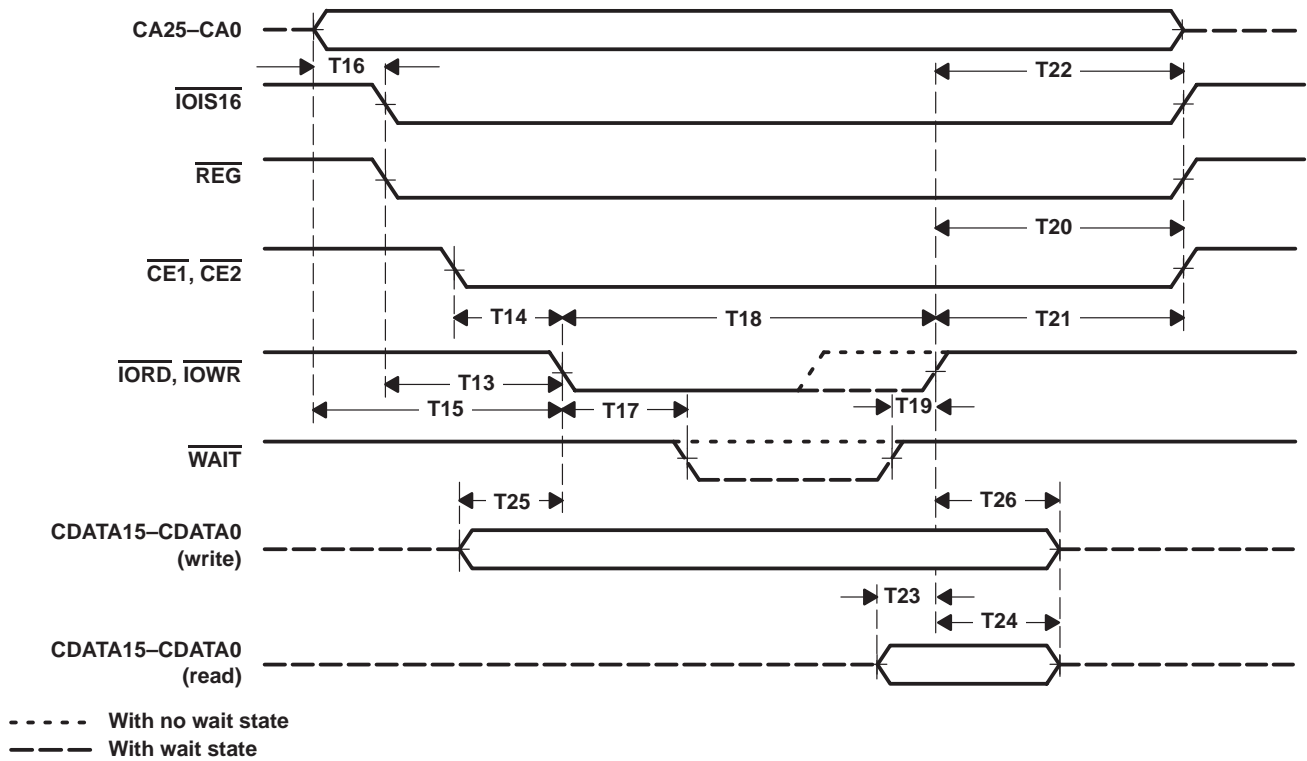

Figure 25. PC Card I/O Cycle
**timing requirements over recommended ranges of supply voltage and operating free-air temperature, I/O cycles (see Figure 25)**